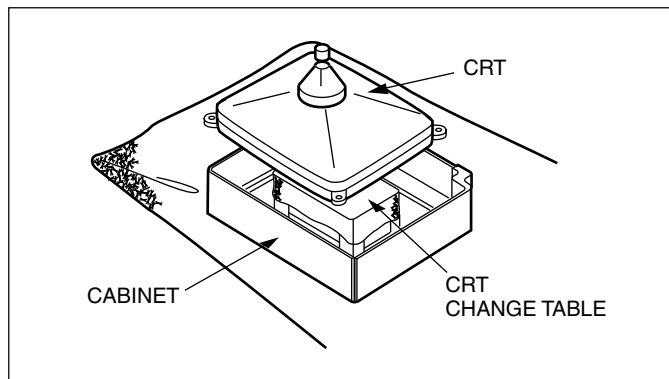

Fig. 6
- 4. After 4 screws have been removed, put the cabinet slowly on cloth (At this time, be carefully so as not to damage the front surface of the cabinet) shown in Fig. 6.